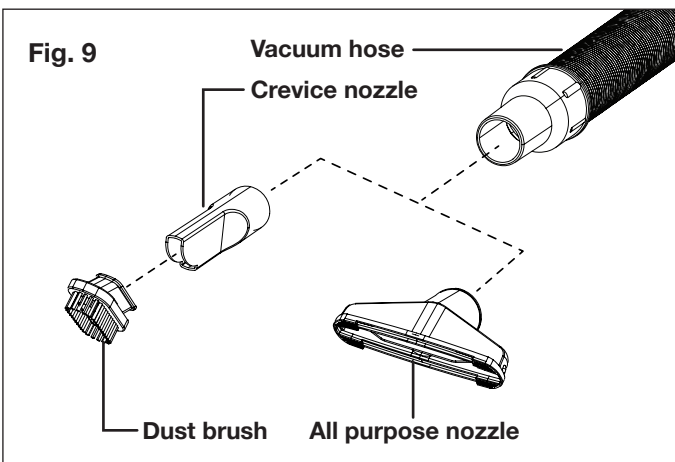

Fig. 9
3. Select the desired accessory, connect it with the other end of the hose, and press firmly to secure. Your vacuum/blower is ready for use (Fig. 9).
3. Install the desired cleaning accessory onto the end of the hose (Fig. 9).
2. Install the desired cleaning accessory onto the end of the hose (Fig. 9).